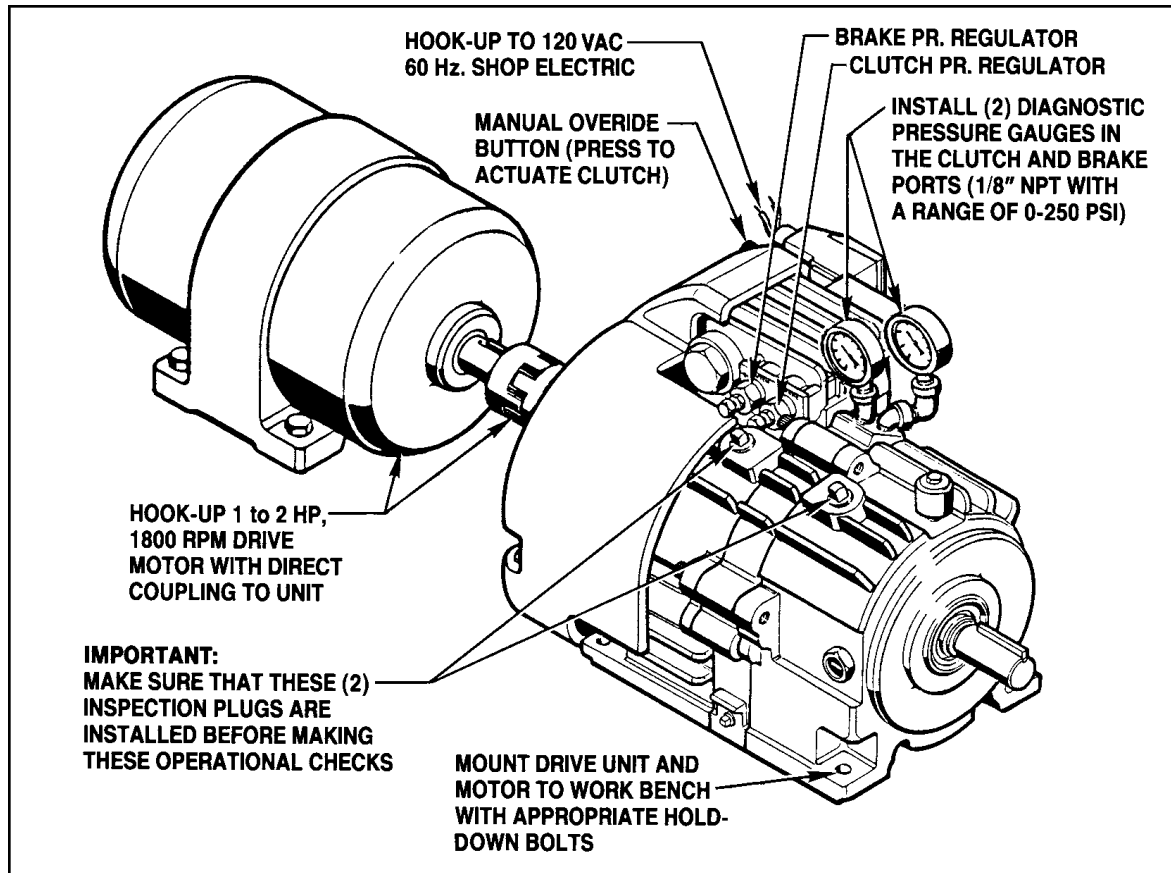

Figure 5.03 - Hydraulic Operational Checks
**5-3 INITIAL SET-UP FOR CHECKING HYDRAULIC OPERATION** (See Figure 5.03)
4. Install (2) diagnostic pressure gauges (0-250 PSI) in the clutch and brake ports as shown in *Figure 5.03*.